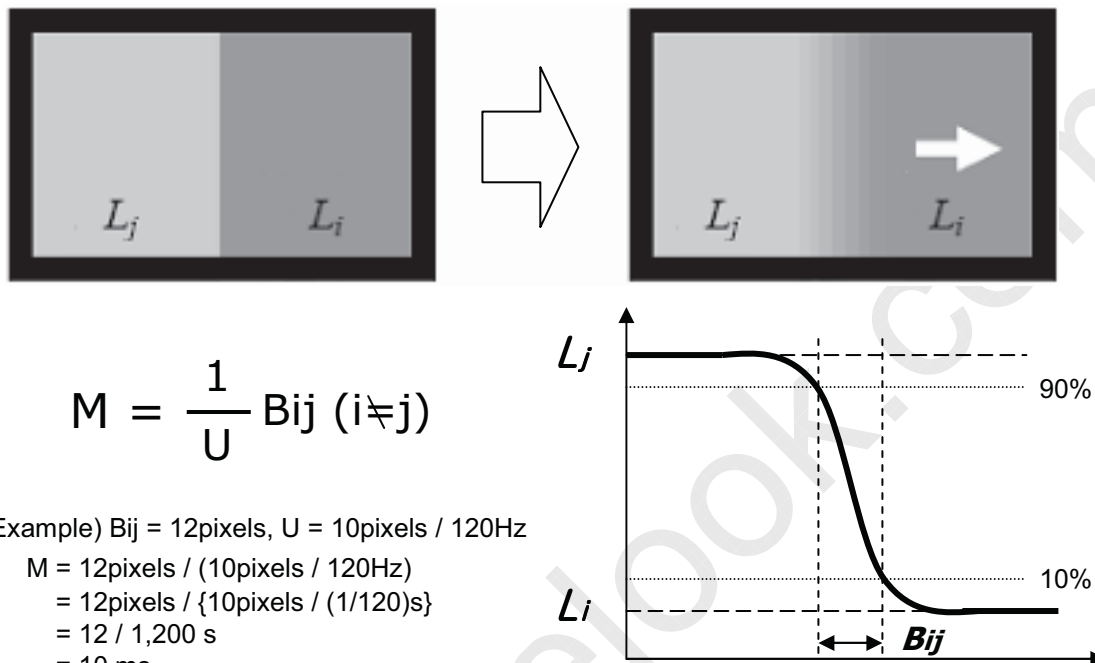

FIG. 4 MPRT
5. MPRT is defined as the 10% to 90% blur-edge width Bij(pixels) and scroll speed U(pixels/frame)at the moving picture. For more information, see FIG 4.